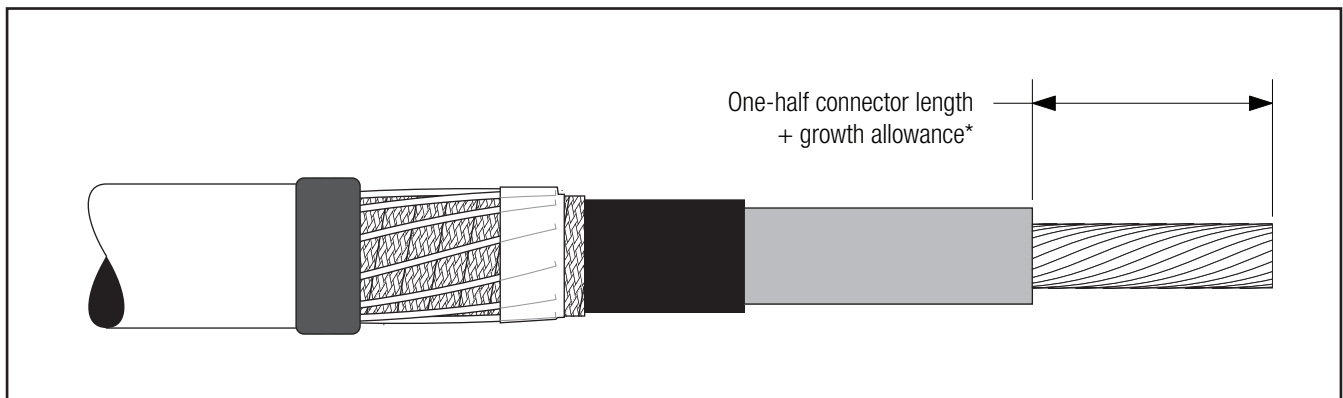

Figure 9
- 3.3 **If using a crimp type connector,** remove cable insulation for 1/2 connector length plus an allowance\* for increases in connector length due to crimping. Insulation removal length shall not exceed 3 1/4" (83 mm) from conductor end. **Do not install connector now** (Figure 9).